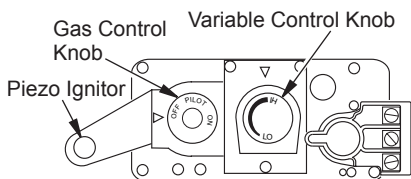

Figure 45 - Control Valve
- Turn gas control knob counterclockwise ↶ to PILOT (see Figure 45).
- Push in gas control knob all the way and hold. Immediately light pilot by repeatedly pressing piezo spark ignitor until a flame appears. Continue to hold for about one (1) minute after the pilot is lit. Release gas control knob and it will pop back. Pilot should remain lit. If it goes out, repeat steps 5 through 8.